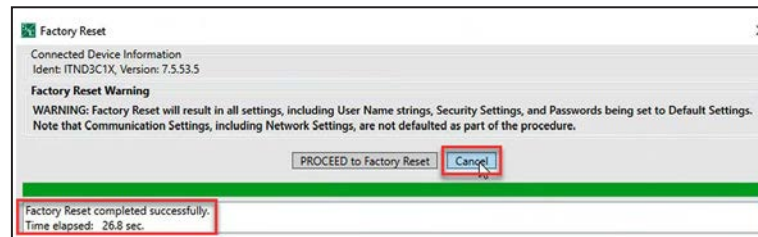

Figure 132. The Factory Reset completed successfully message.
STEP 5. When the **Factory Reset** procedure is completed, click on the **Cancel** button to complete the procedure. See Figure 132.